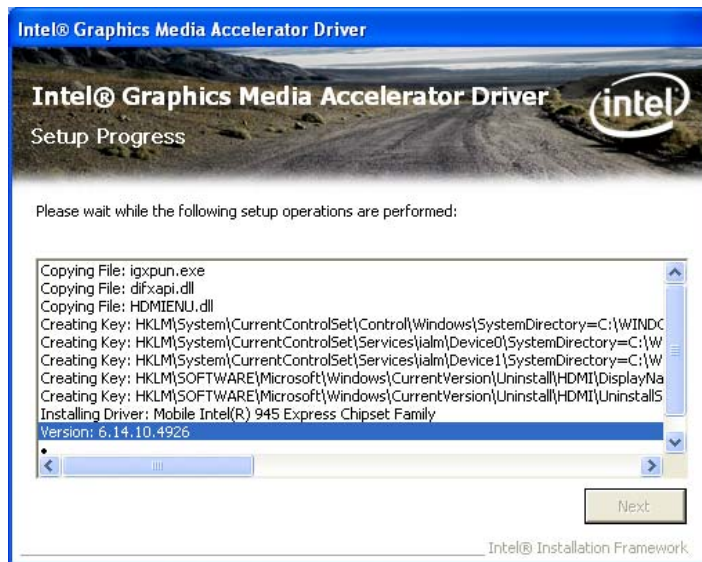

Figure 7-15: VGA Driver Setup Operations
Step 13: Setup Operations are performed as shown in **Figure 7-15**.